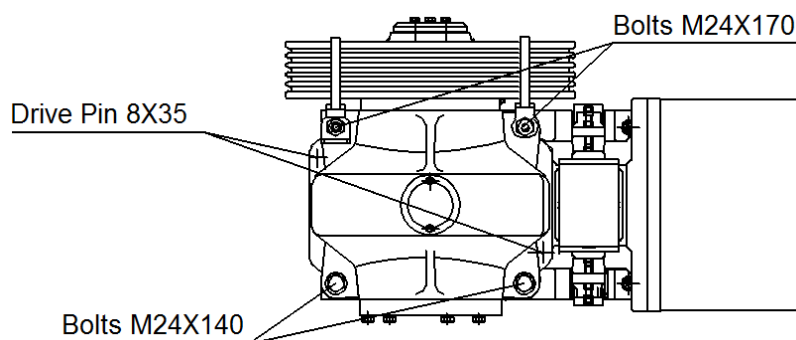

Figure 45 Top housing
4. Thread an M4x50 bolt into each of the two drive pins on the gear box top. Close a large adjustable end wrench on the bolt below the head. Use a hammer or mallet against the wrench to remove the drive pins. Remove the Bolts M16x60 from the Spindle Through Cover and the Bolts M16x50 from the Bearing Gland. Then remove the Spindle Through Cover and Bearing Gland. See Figure 45.